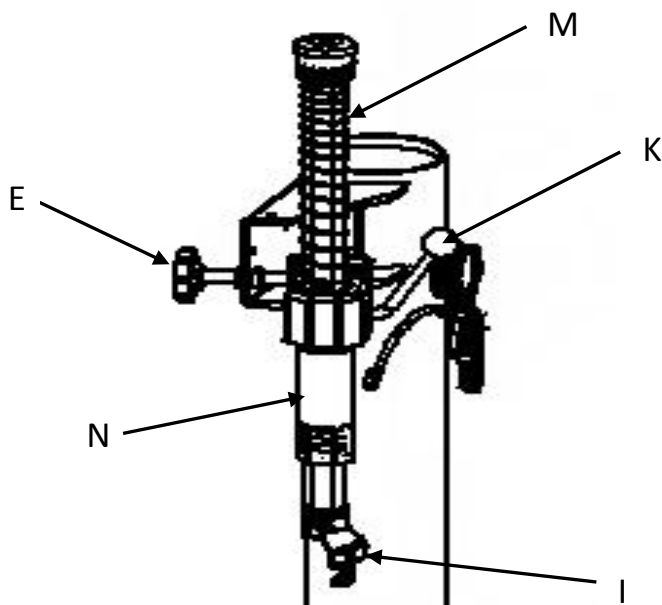

Figure 14
head (I) is moved to the top of the rim of the 2-3.5mm. Once the operating arm is locked in the vertical direction, As shown in Figure 14, you must use the left hand wheel (E) which is on the horizontal swing arm (N) to remove the rim of the head (I) (about 2-3.5mm).